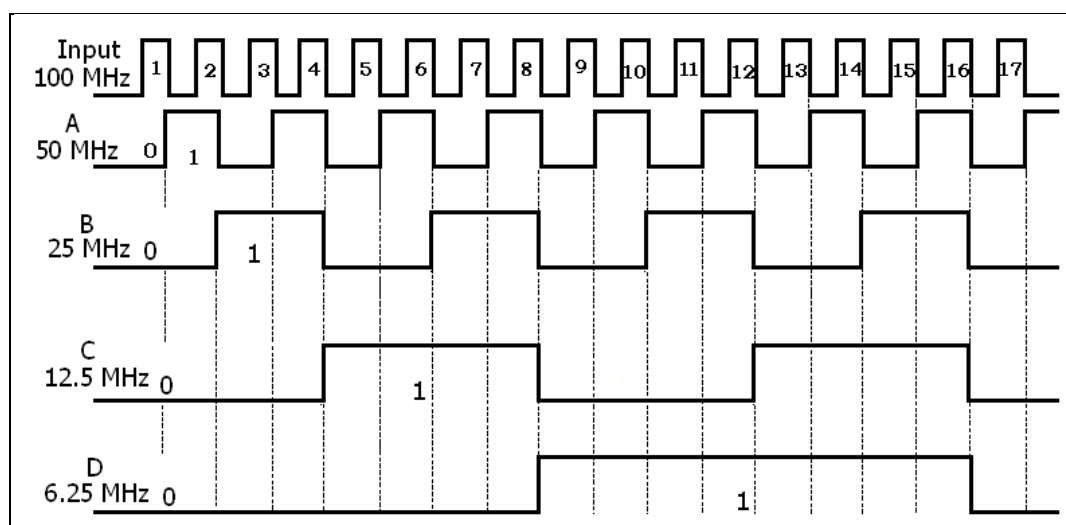
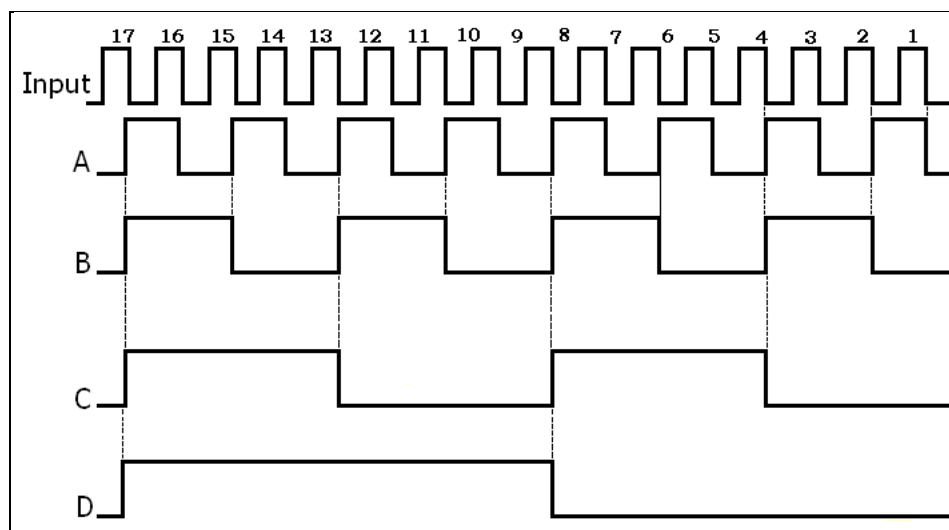

Fig. 3.4-2 Input and Output Waveforms of a Four bit Binary Counter
Fig. 3.4-4 Input and Output Waveforms of a Four bit Binary Down Counter
flops will change states from 1s to 0s, Clock pulse (**T**) resetting the A-flip/flop, the A-flip/flop resetting the B flip-flop, the B flip-flop resetting the C-flip/flop and finally the C-flip/flop resetting the D-flip/flop. As the resulting contents of the counter change to **0000**, as shown in Table 3.4-1, the counting cycle repeats again. The complete operation of the four bit binary counter is illustrated by the input and output waveforms in Fig. 3.4-2. The clock input in binary format is a series of pulses equally spaced to be counted. The normal outputs from the flip/flops are divide-by-2 waveforms as 1248 outputs A, B, C and D, respectively.
As shown in Fig. 3.4-2, first, all the flip-flops toggle (change state) on the trailing edge or the binary 1 to binary 0 transition of the previous flip-flop.
Another important fact that is clear from the waveforms in Fig. 3.4-2 is that the binary counter is also a frequency divider. The output of each flip/flop is one-half the frequency of its input. If the input is a 100kHz square wave, the outputs of the flip-flops are:
The binary counter, as shown in Fig. 3.4-2, above is a binary up-counter where Q-outputs (A-D) of the low order flip/flops drive the T-input of the next stage flip-flop. All the flip/flops are reset to 0s before starting to count. Each time an input pulse occurs, the binary number increases, incrementing the counter by one.
The down count sequence is illustrated in Table 3.4-2 and the corresponding waveforms associated with this counter are shown in Fig. 3.4-4, keeping the same divide by 2 frequency output relationship as the up-counter.
When the first input pulse is applied, the A-flip/flop will set. As it does, its complement output will switch from binary 1 to binary 0, thereby toggling the B flip-flop. The B flip-flop becomes set and its complement output also switches from binary 1 to binary 0, causing the C-flip/flop to set. Similarly, the complement output of the C-flip/flop switches from high to low, thereby, setting the D-flip/flop. The counter recycles from **1111** to **0000**, as shown in Fig. 3.4-4. When the next input pulse arrives, the A flip-flop will again be complemented and reset. As it resets, the complementary output ( $\bar{Q}$ ) will switch from binary 0 to binary 1. The B-flip/flop ignores this transition. No further state changes take place and the content of the counter is **1110**.
This input pulse causes the counter to be decremented from 15 to 14. Applying another input pulse again complements the A-flip/flop to set state. As it sets, its complementary output switches from binary 1 to binary 0, causing the B flip-flop to reset. As it resets, the complement output B-flip/flop switches from binary 0 to binary 1. The C-flip/flop ignores this transition. The counter now contains **1101** or **13**. Again the input pulse causes the counter to be decremented by one. By using the Table 3.4-2 and the waveforms in Fig. 3.4-4, we can trace the complete operation of the 4 bit binary down counter.
The worst case condition in a binary counter occurs when all flip/flops in the counter change state, simultaneously, when maximum/minimum count (**1111/0000**) is reached just before recycling resumes again during up/down counting operation. Referring back to the waveforms for the four bit binary up counter in Fig. 3.4-2, the worst case condition occurs when the counter reaches the maximum count **1111** and the next pulse occurs to reset all flip-flops to **0000** and recycle again. In Fig. 3.4-4 for the four bit binary down counter waveforms, the worst case condition occurs when the counter reaches the minimum count **0000** and the next pulse occurs to set all flip/flops to **1111**
The output waveforms are similar to those in Fig. 3.4-2 corresponding to the counting sequence in the Table 3.4-1. Analyzing the state changes in the flip/flop operations will reveal the benefit of this binary counter, as follows: Assume that the counter contains the number **0111 (7)**. This means that the A, B and C-flip/flops are set and JK-inputs to the B, C and-D flip/flops are enabled. This means that upon the occurrence of the next input count pulse, all flip-flops will toggle to change states, simultaneously.